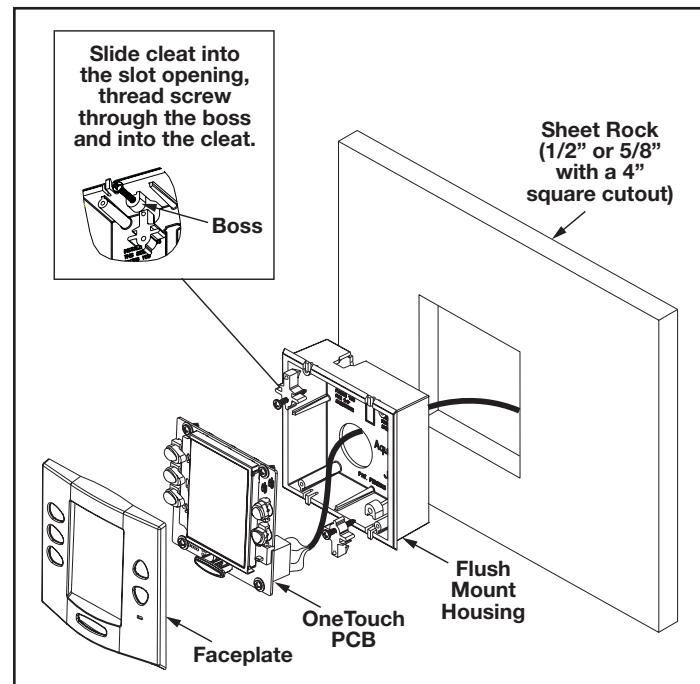

**Figure 25. OneTouch PCB - Back View**
- Wire the 4-conductor cable to the red, 4-pin terminal bar (see Figure 25). Push the 4-pin terminal bar onto the back of the OneTouch PCB. Place the PCB with LCD and buttons back into the box. Insert the screws and hand tighten. ***Do not overtighten.*** Snap the faceplate into place.